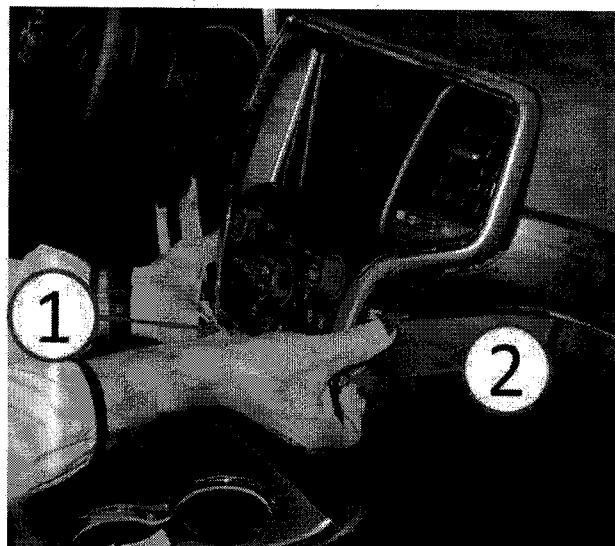

***Fig. 9 HVAC Outlet Installation And Function***
9. Ensure there are no gaps between the ICS bezel and the HVAC outlet perimeter mating surface (1) (Fig. 9).
10. Using the center-knob (2), cycle the air vanes up, down, and side to side to ensure they move freely (Fig. 9).
11. Cycle the control-wheel (3) side to side while inspecting the damper door is functioning properly in open and closed positions (Fig. 9).